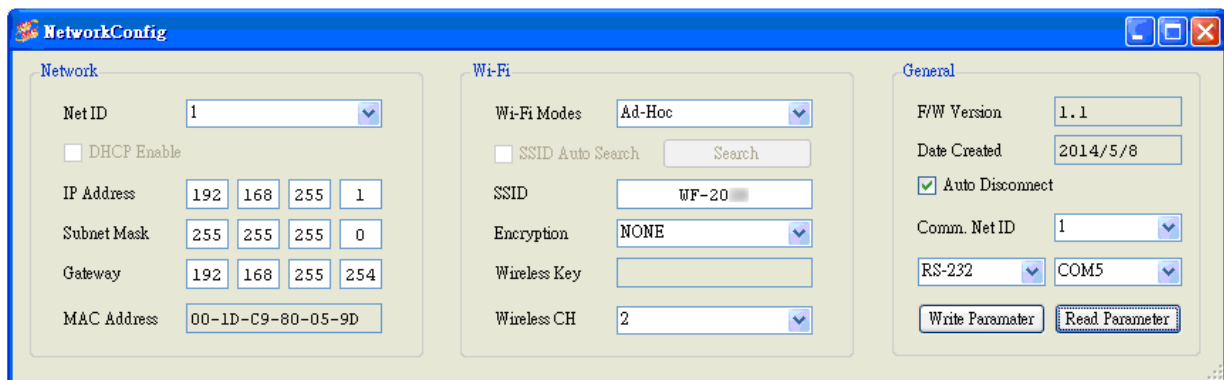

Figure 4-2 Configuration Interface
- 01 、 Net ID : The Unit Identifier in Modbus TCP/IP application data unit. This case is set as "1" in Figure 4-2.